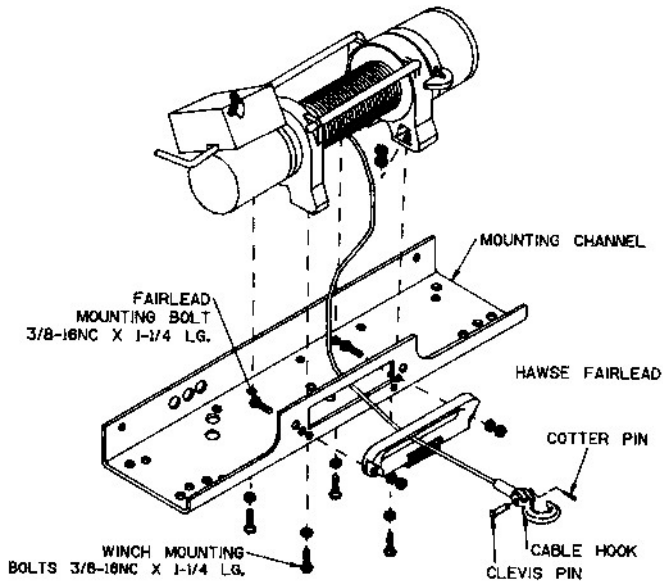

FIGURE 4
Attach fairlead to channel using hardware furnished with winch (see FIGURE 4). Attach winch to channel. Place (4) flat washers and nuts into pockets of winch mounting feet and thread capscrews with lock washers through mounting holes in channel and into hardware in winch feet.
Place end of drum cable through fairlead and attach cable hook. Use clevis pin and cotter pin (see FIGURE 4).